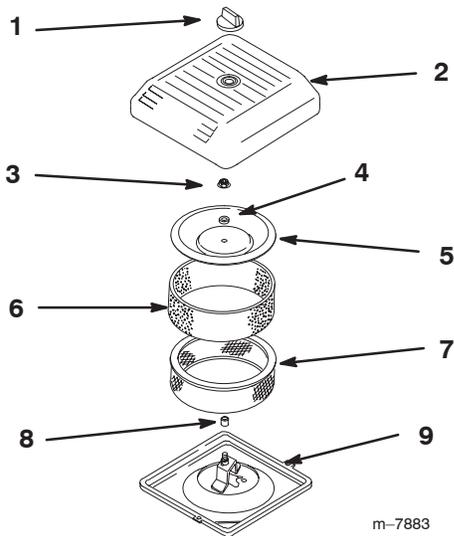

Figure 27
4. Unscrew the knob and remove the air cleaner cover (Fig. 27).
- Carefully slide the foam pre-filter off of the paper element (Fig. 27).
- Unscrew the cover nut and remove the cover, spacer and paper filter (Fig. 27).
- Carefully slide the foam pre-filter onto the paper filter (Fig. 27).
- Place the air cleaner assembly onto the air cleaner base (Fig. 27).
- Install the cover, spacer and secure it with the cover nut (Fig. 27). Torque the nut to 95 in-lb (11 N·m).
- Install the air cleaner cover and secure with the knob (Fig. 27).